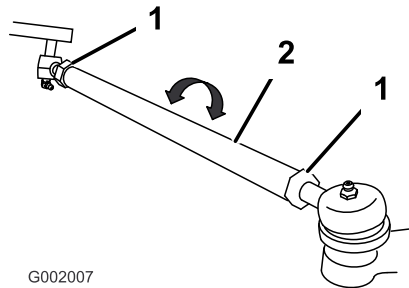

Figure 61
- If the measurement does not fall within the specified range, loosen the jam nuts at both ends of the tie rods (Figure 61).